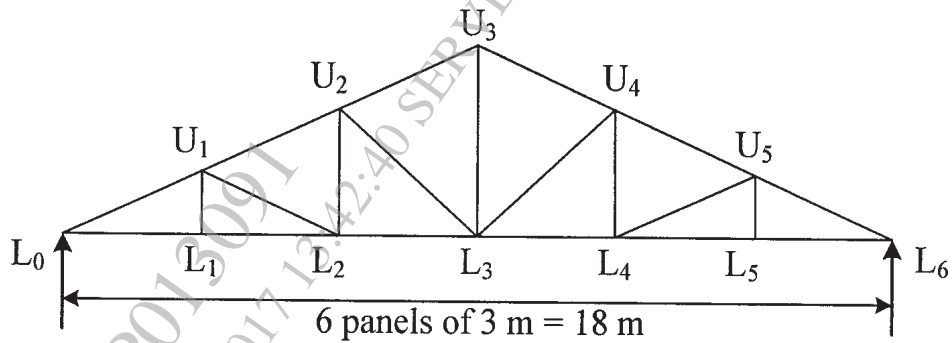

Fig. 9
- Q9)** A truss shown in Fig.9 is used for an industrial building covered with AC sheet of self weight 150 N/m^2 located at Mumbai. Calculate the panel point dead, live and wind load. Also determine design forces in the members L_0L_1 , U_1L_1 and L_0U_1 . Assume spacing of trusses 4 m, $k_1 = 1$, $k_2 = 1$, $k_3 = 1$, $(C_{pe} - C_{pi}) = \pm 1.2$. Draw the design sketches. [18]